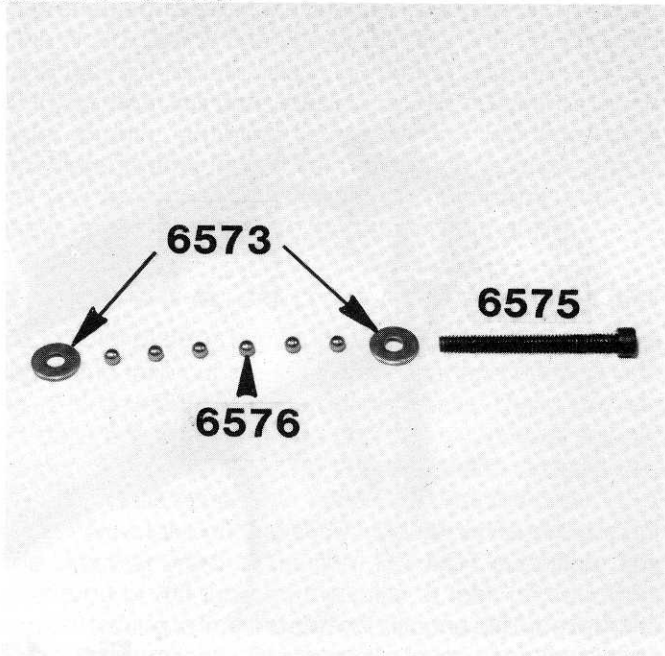

Fig. 44
□ **Fig. 44** From Bag A take out the #6575 diff thrust bolt, the two #6573 diff thrust washers and the #6576 carbide thrust balls.